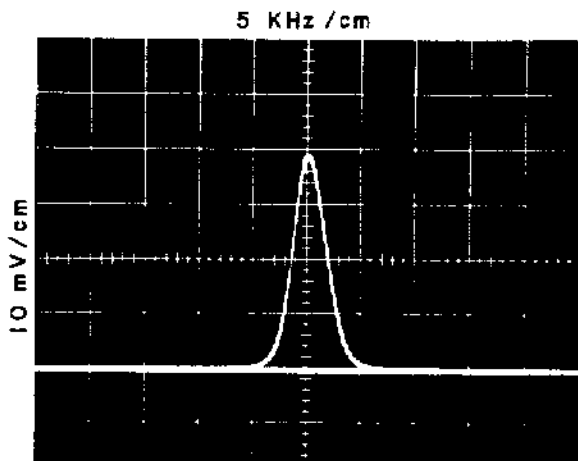

Figure 5-24. Typical Response, 455 kHz Amplifier (Narrow Band)
- (3) Set the sweep generator for a -70 dBm 455 kHz unmodulated RF output.
- (4) Set the marker signal generator to within ± 0.1 kHz of 455 kHz.
- (5) Adjust the sweep generator and oscilloscope controls for an undistorted response.
- (6) Adjust L3 and L4 for a maximum amplitude symmetrical response about the marker similar to Figure 5-24 (for clarity, the marker has been deleted on the photograph).